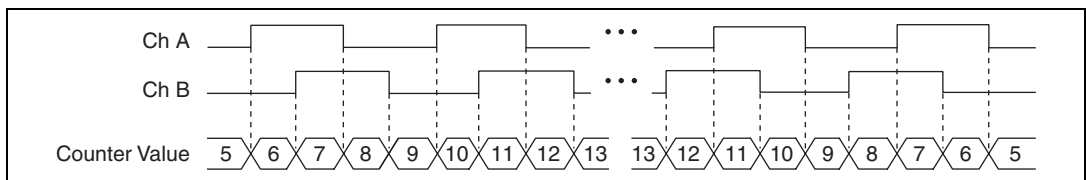

Figure 7-16. X4 Encoding
- X4 Encoding**—Similarly, the counter increments or decrements on each edge of channels A and B for X4 encoding. Whether the counter increments or decrements depends on which channel leads the other. Each cycle results in four increments or decrements, as shown in Figure 7-16.